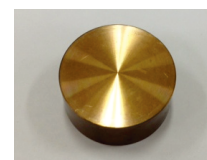

Fig. 4 Copper Alloy
(2) Similarly, the measurement results for copper alloy (Fig. 4) are shown in Table 2. Here, also, the effect of Automatic Time Reduction is clearly demonstrated.